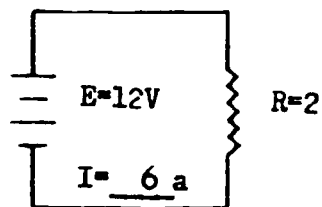
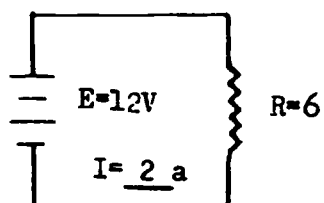
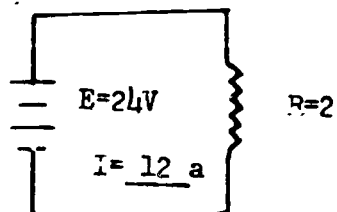

Figure 1.
Figure 2.
Figure 3.
1. If the circuit below, figure 2, is compared to the circuit above, figure 1, you would see the resistor value has been increased to 6 ohms. This increase will cause the circuit current to drop to 2 amps.
2. If the circuit below, figure 3, is compared to the circuit above, figure 1, you can see the applied voltage was increased. This increase will cause the circuit current to increase to 12 amps.